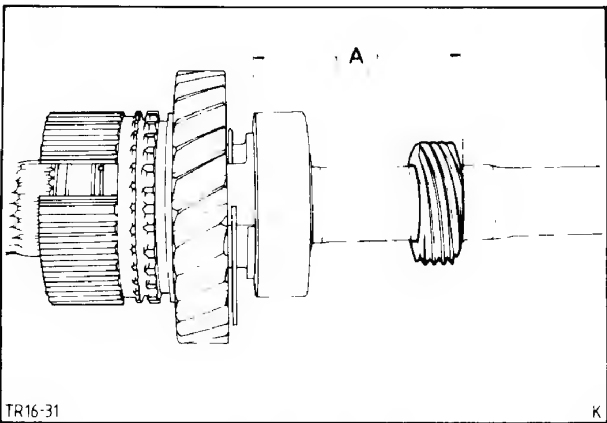

Fig. 41. Location of speedometer worm gear
- 29. Fit speedometer worm gear, Fig. 41.